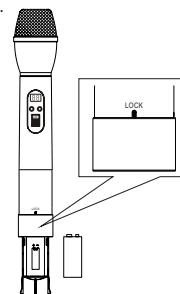
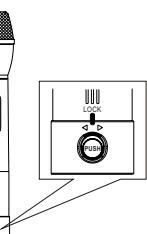

Figure 2
Figure 3
- Insert 9V battery(pay attention to the positive and negative pole) and then push the battery compartmentback (figure 2). Turn battery cover 90 degree clockwise to "LOCK" position (figure 3).